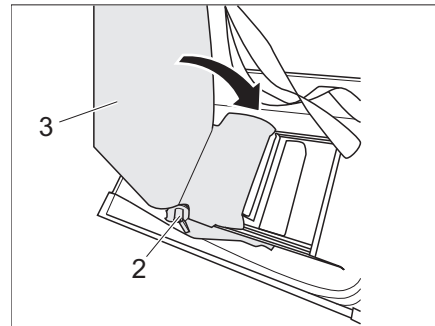

Fig. 210 Stow the seat back in the bench
- Engage lever 1 (Fig. 210,2) and fold the seat back (Fig. 210,3) inwards.